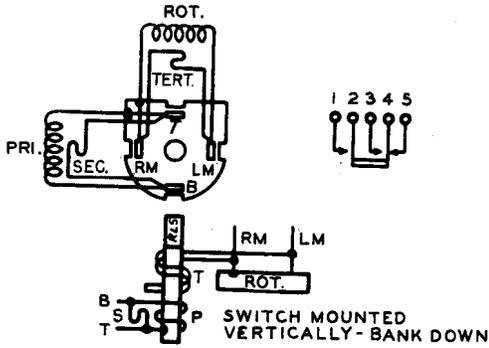

Fig. 109 – Winding and Spring Terminal Arrangement as Viewed From the Rear (terminal side) — 204-Type Selectors
4.17 204-Type Selectors: The contact terminals are numbered consecutively from the mounting bracket outward. The winding terminals are designated as shown in Fig. 109.